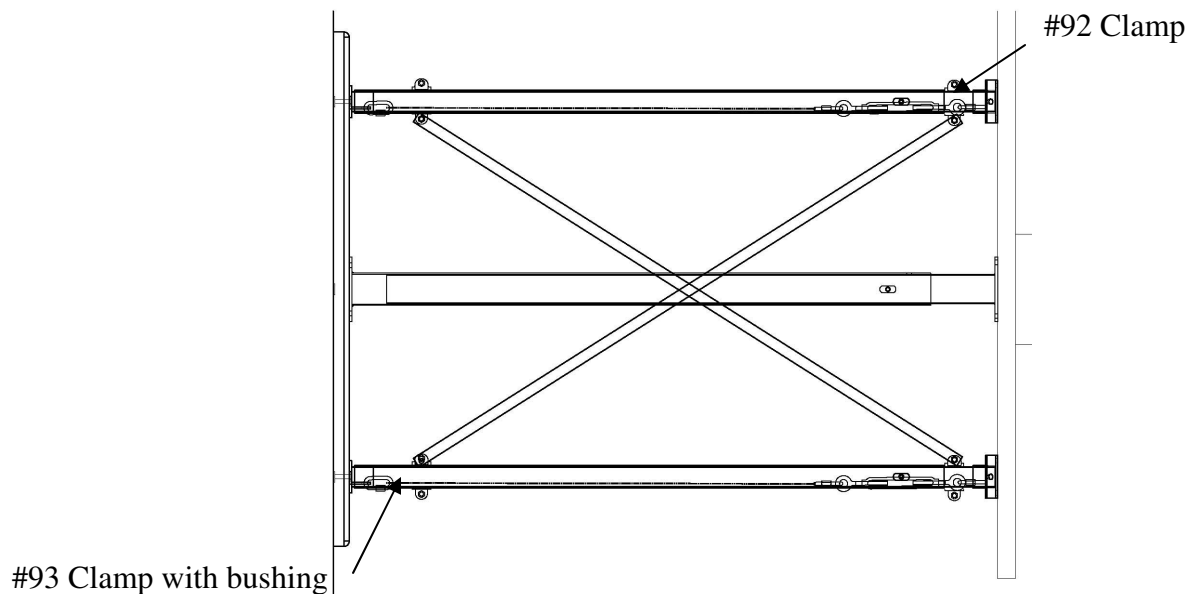

Figure 11. Cross bracing example.
- 12) To further brace the unit, the strap bracing should be installed on the upper extension arms. To complete this, the #93 clamps with bushings should be attached to the outer extension pipes. On the inner pipes, as close to the outer pipe as possible, attach #92 clamps. Before tightening down the carriage bolts, install the strap bracing on each clamp as shown in figure 11. Secure the two braces together with a hex bolt and lock nut.